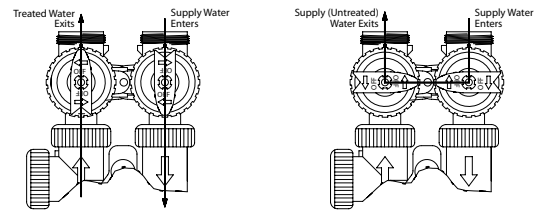

Figure 4. BYPASS VALVE
Step 13. Partially open INLET knob on bypass valve (Figure 4). This will allow the unit to fill slowly from the bottom up, reducing air entrapment. Allow unit to fill slowly, failure to do so could result in loss of resin to the drain. Once a steady stream of water, no air, is flowing to drain the inlet and outlet knobs on the bypass can be fully opened.